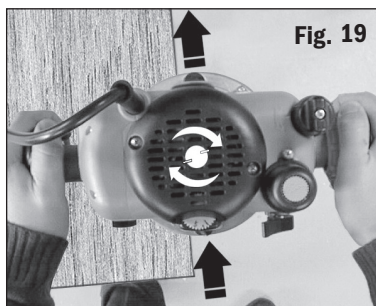

Fig. 19
- Always feed against the direction of cutter rotation (clockwise, as indicated by the arrows on the router base). **Fig. 19.**